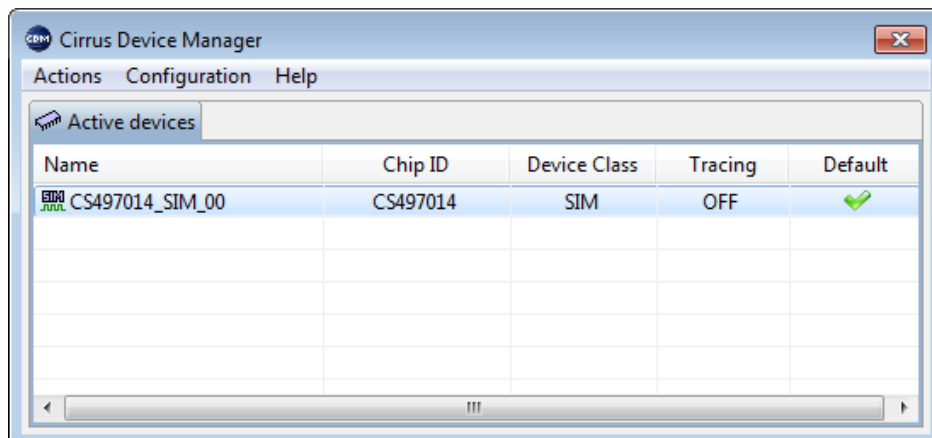

Figure 8-19. CDM Window
12. Double click on the Cirrus Device Manger (CDM) icon on the bottom right of your desktop and right click on the appropriate board detected and listed in CDM as shown in Figure 8-19.